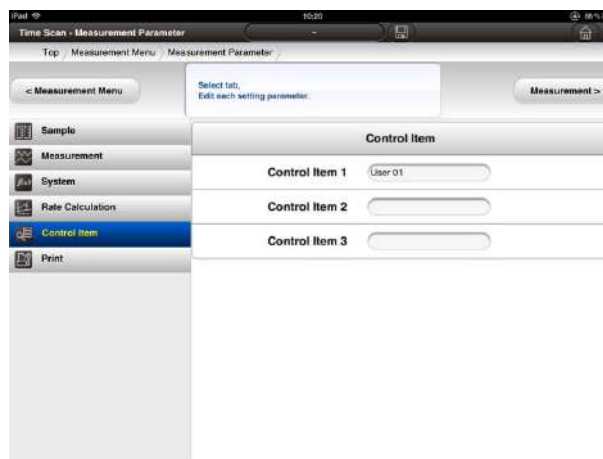

Fig. 4-147 Control Item Window
- (1) Press  [control item tab] to set control items.
- (2) The control item window window (Fig. 4-147) will then be shown.